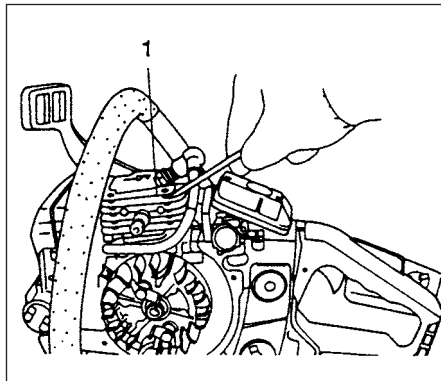

Fig.3-9
**Cleaning the cylinder fins (Fig. 3-9)**